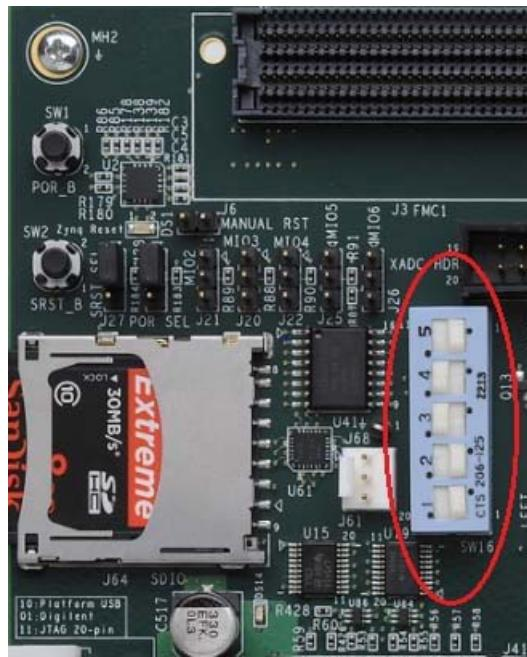

Figure 6-17: Jumper Settings for Booting Linux from SD Card
1. Change the SW16 switch setting as shown in Figure 6-17.